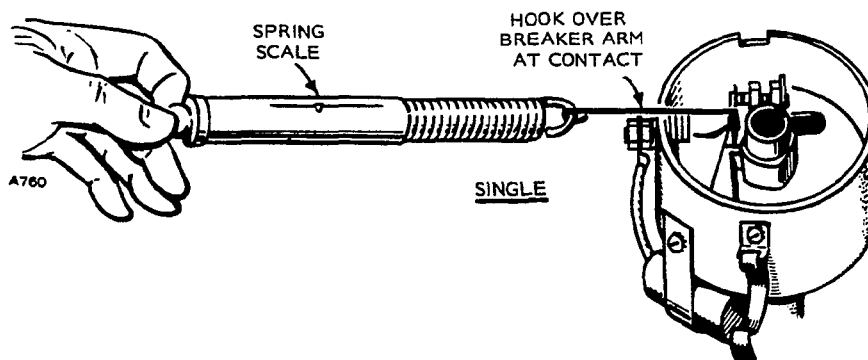

FIGURE 49. POINT SPRING TENSION
Use a spring scale (Figure 49) to measure point spring tension. Tension should be 17-20 ounces with rubbing block off the cam. Greater tension causes excess wear; less tension causes point bounce.
9. Check breaker spring tension with a spring scale hooked at the movable arm contact and rubbing block off cam. Hold at right angles to contact surfaces (Figure 49). Tension should be 17 to 20 ounces. If not, adjust it by loosening screw holding end of contact spring and installing spacing washer or sliding end of the spring in or out.